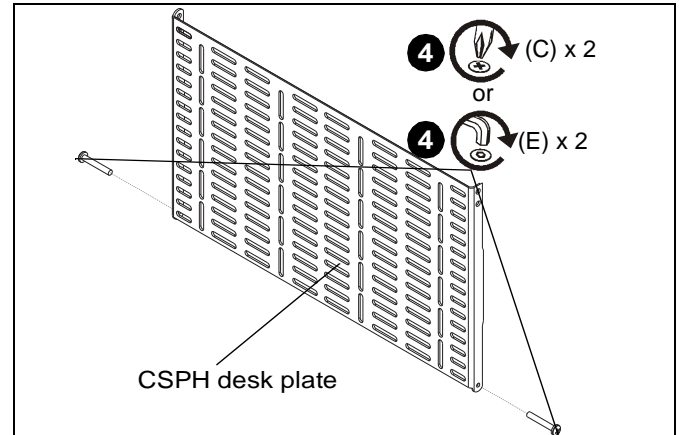

Figure 3
4. Loosely install two #10-24 x 3/4" Phillips pan machine screws (C) into bottom holes on CSPH desk plate. Two #10-24 x 1/2" button head security screws (E) may be used in place of two Phillips screws (C) if greater security is desired. (See Figure 3)